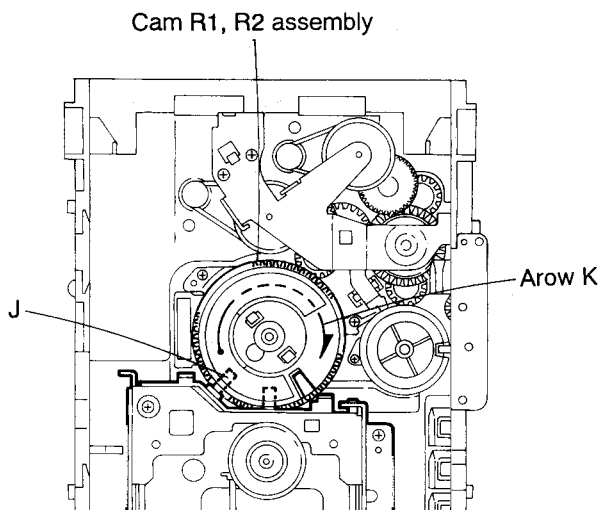

Fig. 5-26
Removing the CD mechanism (See Figs. 5-26 and 5-27)
1. For dismantling only the CD mechanism without removing the CD mechanism assembly, align the shaft (L) of the CD mechanism assembly to the position shown in Fig. 5-26 while turning the cam R1 and R2 assembly in the arrow direction (K).